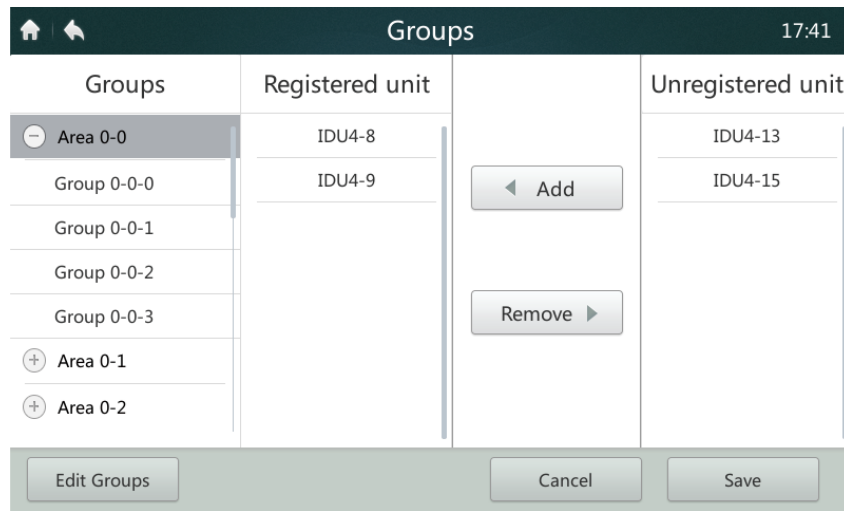

Figure 40 Homepage 2 of Group View page
1. The user needs first to create groups. After groups are created, the group view page is displayed, as shown in Figure 40.
2. Tap to select the group on the left for adding or deleting IDUs, as shown in Figure 40.
3. Tap to select a group on the right ungrouped device list, as shown in Figure 40. Tap the "**Add**" button to add it to the selected group. The device will be displayed in the grouped device list.